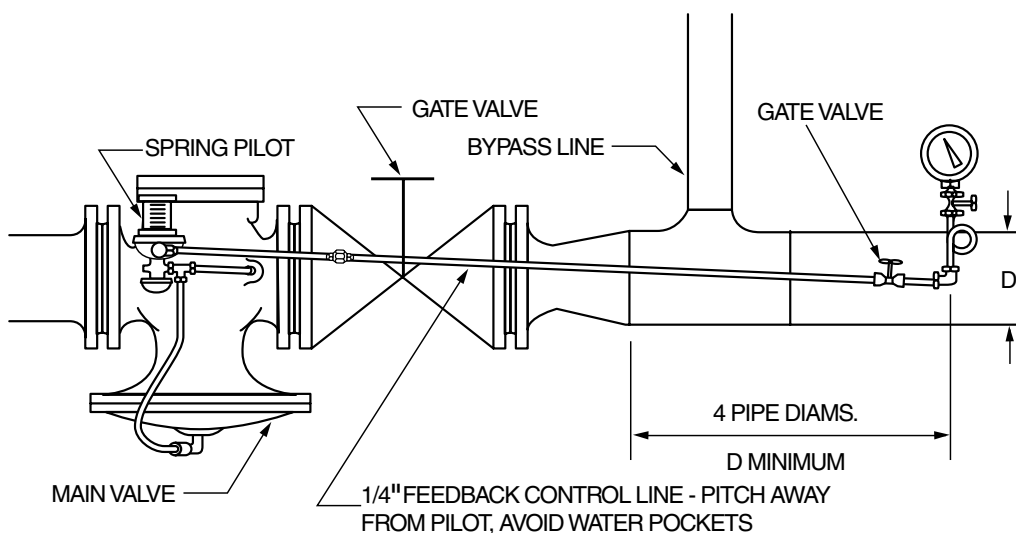

Figure 2
9. Install a downstream feedback control line to sense pressure at the point of desired pressure control using **1/4 black steel pipe**. Install a 1/4 NPT shut-off valve in this line. The feedback control line should connect to the top or side of the main valve outlet line at least 10 pipe diameters downstream of any valves or elbows, at a point of minimum turbulence (See Figure 2).
Note: Avoid sensing the downstream pressure immediately at the main valve outlet or after a turn. When the delivery pipe expands in size, select a spot at least 4 pipe diameters beyond the point of enlargement (See Figure 2).